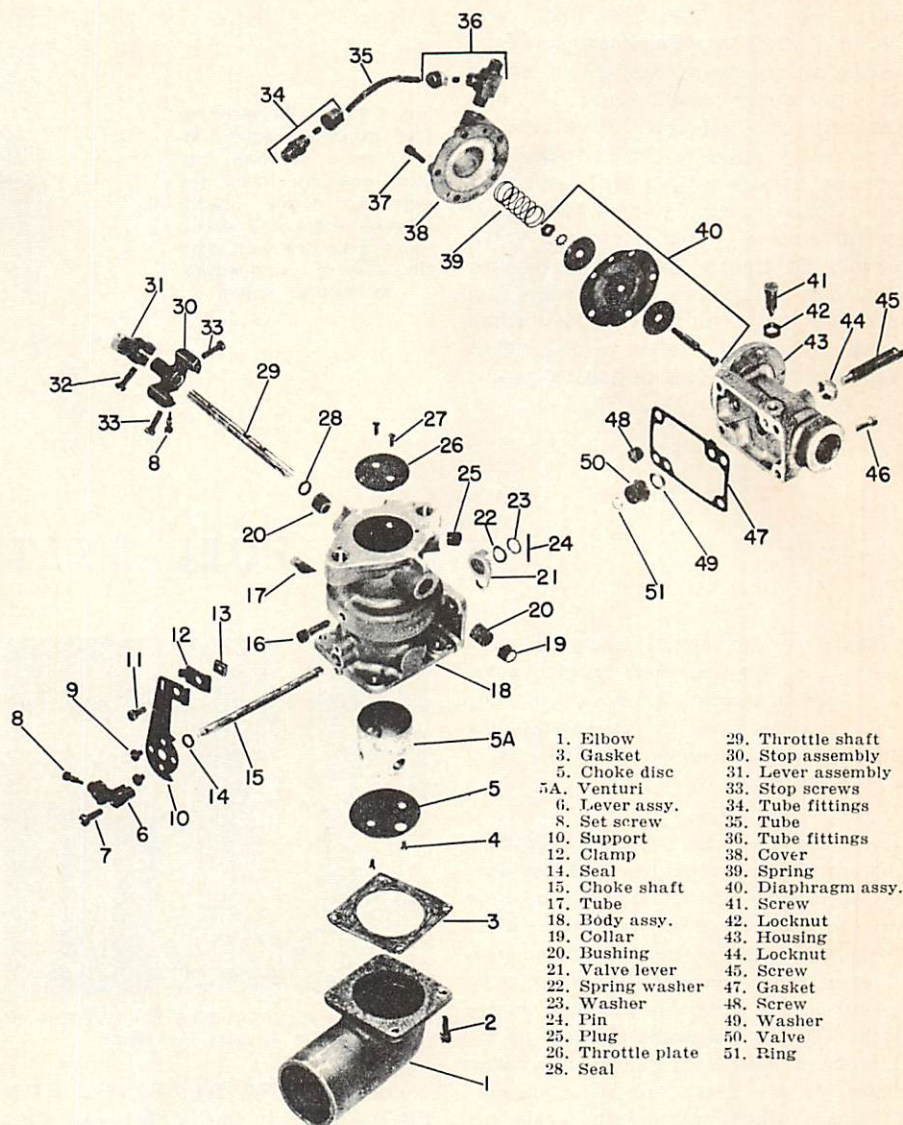

Fig. O80 — Exploded view of the Bosch-Ensign LP-Gas carburetor used on Series 1650 and late Series 1600 tractors.
The Bosch-Ensign Series CBX carburetor is equipped with starting and load adjustment screws and with an economizer unit that richens the fuel mixture under load conditions. See Fig. O80 for exploded view of carburetor. Idle fuel mixture adjustment is provided on the regulator.
**109. OVERHAUL CARBURETOR.** Refer to Fig. O80. Repair parts are available separately, also a repair kit is available for the carburetor. Other